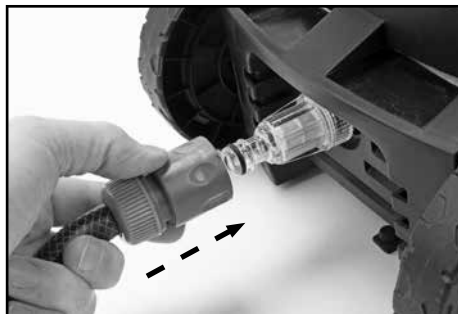

FIG.14
- Screw the supplied water inlet adaptor (6) to the water inlet connection (6.1) taking care not to cross the threads.
- To connect the pressure washer to the water supply, a push fit hose connector will be required (FIG.14). Ensure the connector is correctly fitted to the hose and that a 'click' is heard when attaching to the machine.